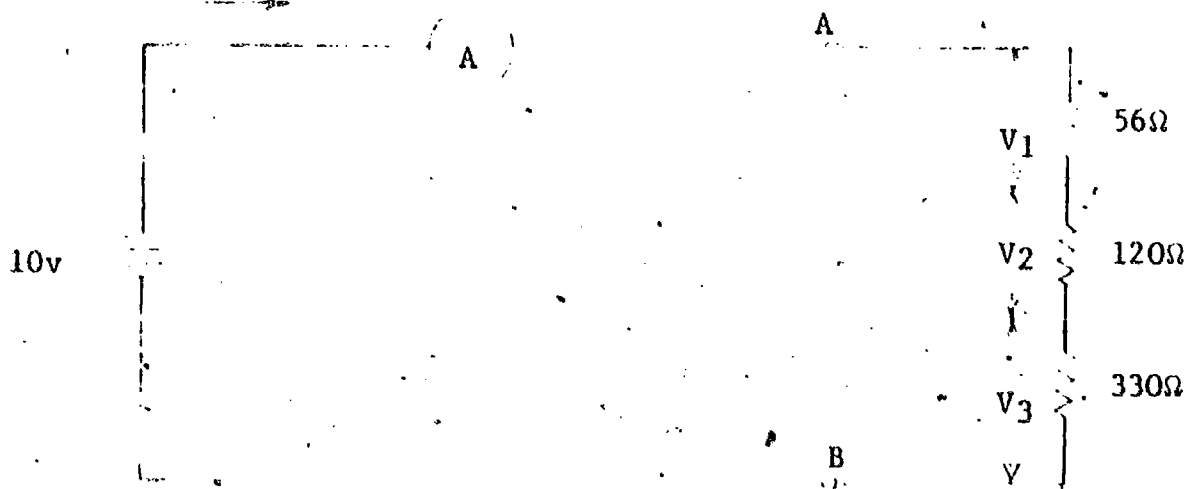

Figure 3 - Voltmeter - Ammeter Method of Obtaining Resistance
4. Calculate the total resistance in the circuit of Figure 3 using equation (6).